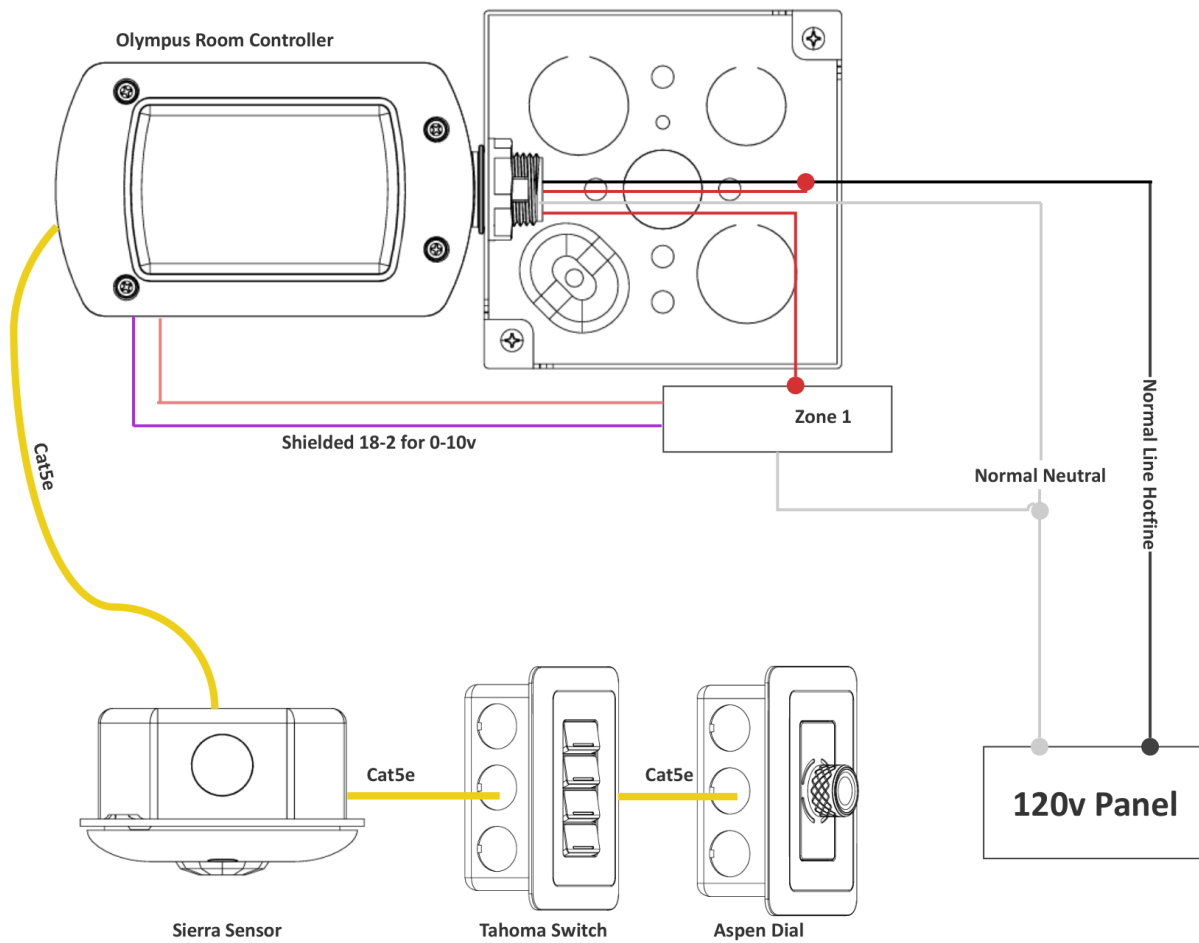

Figure 7-3 — Single-zone wiring diagram. One Olympus relay output switches the Zone 1 fixture circuit; the Aspen and Sierra connect over Class 2 Cat5e.
13.1 Single zone — standalone	One dimming zone with manual dimming and vacancy control. Zone selector DIP 1 (all zones) at every device. Wiring: Figure 7-3 (Section 7.3).